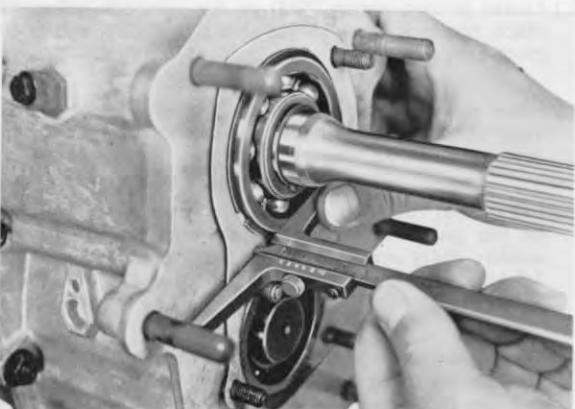
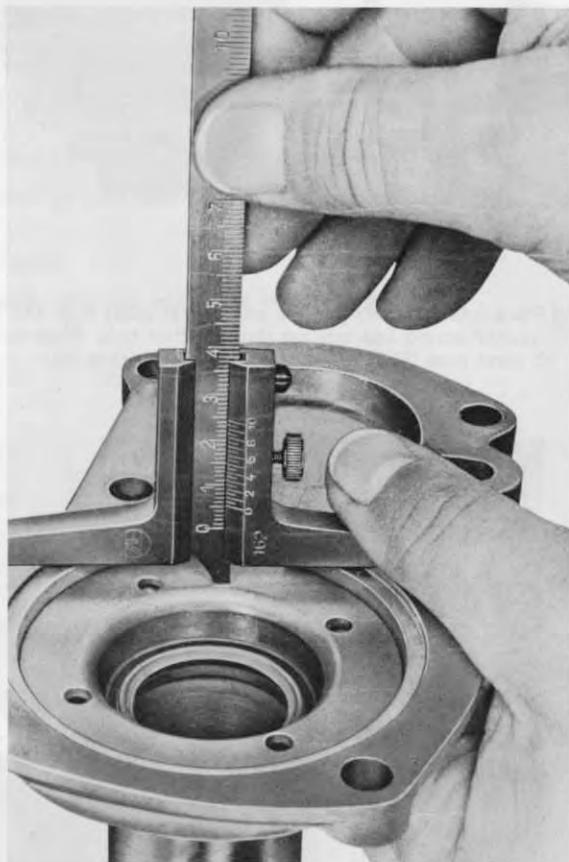

Fig. 63
Fig. 64
- The selection of the spacer (804) for the ball bearing must give between 0 and 0,05 mm pre-load. Hold the layshaft bearing and firstly measure the amount of the ball bearing projecting over the sealing surface (Fig. 63) and then take this measurement from the depth of the smaller bore in the withdrawal bearing carrier (Fig. 64). The resultant dimension less 0 to 0,1 mm play gives the thickness of the spacing washer (210) which is available in thicknesses of 0,4; 0,5; 0,6; 0,7; 0,8; 0,9 and 1,0.